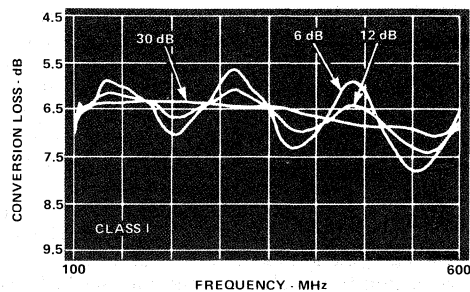

Figure 7(A)
Figure 7(A) shows a Class I mixer's relative conversion loss from 100 to 600 MHz at a +10 dBm LO drive level and -10 dBm RF input. The LO and IF ports are terminated in 50 ohms. The RF source return loss is varied from 30 dB (a nearly perfect 50-ohm impedance) to values of 12 dB and 6 dB. By assuming a mixer RF input VSWR of 2:1 and multiplying the VSWRs, the 12 dB source termination should produce about 1.5 dB, and the 6 dB case should cause nearly 3 dB conversion loss ripple. The actual mixer performed a little better than theory predicts, particularly at lower frequencies, due to the fact that the Class I mixer VSWR measured closer to 1.5:1 than the assumed 2:1.